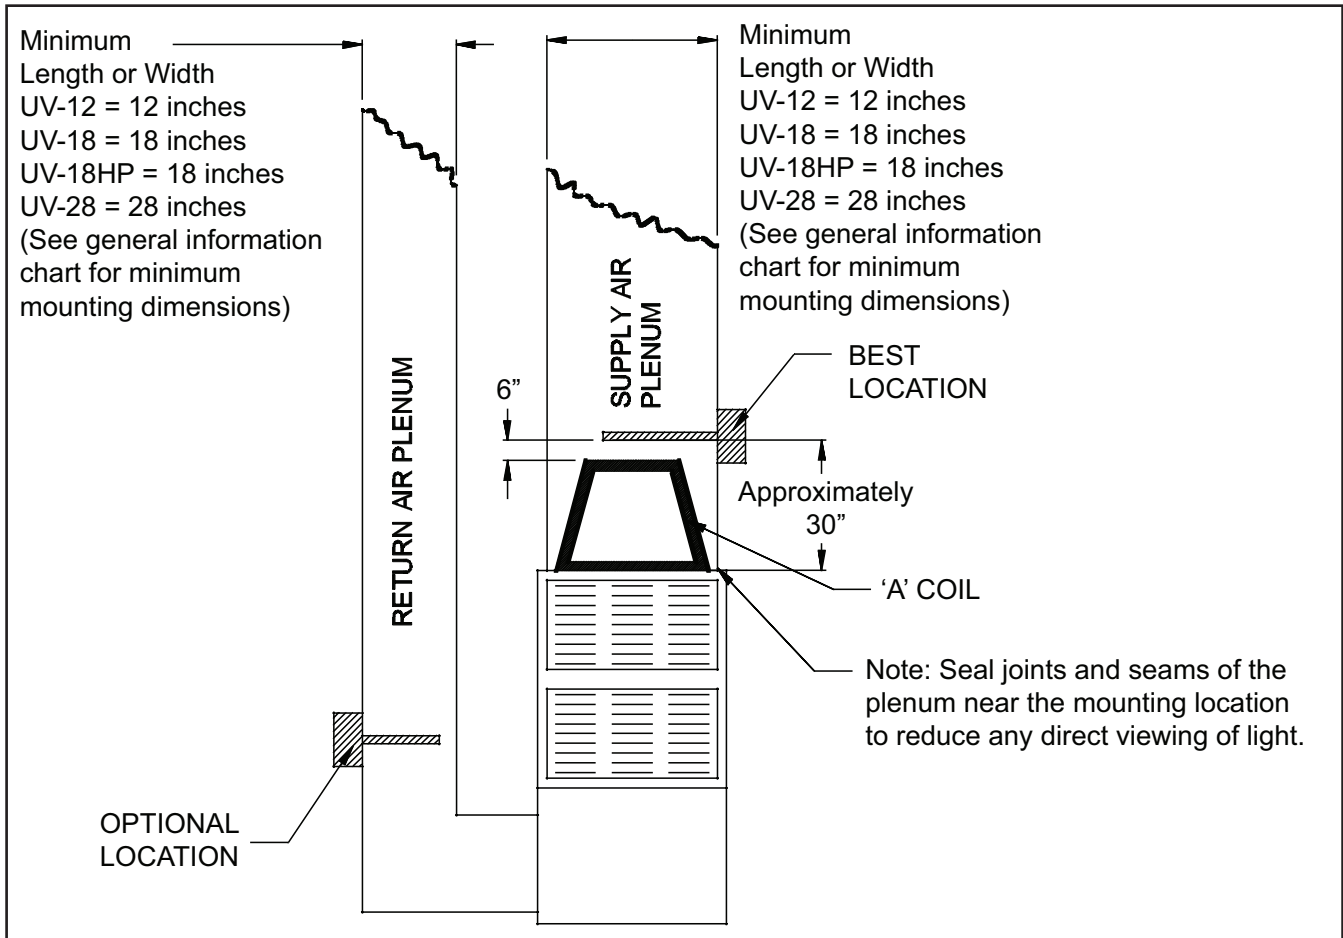

Figure 1
1. Locate a suitable location for the unit downstream from the 'A' coil in the supply plenum or in the return plenum; preferably downstream from the air filter. For optimum cleaning effect on the 'A' coil, mount the unit in the supply plenum as close as possible to the 'A' coil. (See Figure 1)
NOTE: Seal the joints and seams of the plenum near the mounting location to reduce any direct viewing of light. (See Figure 1)